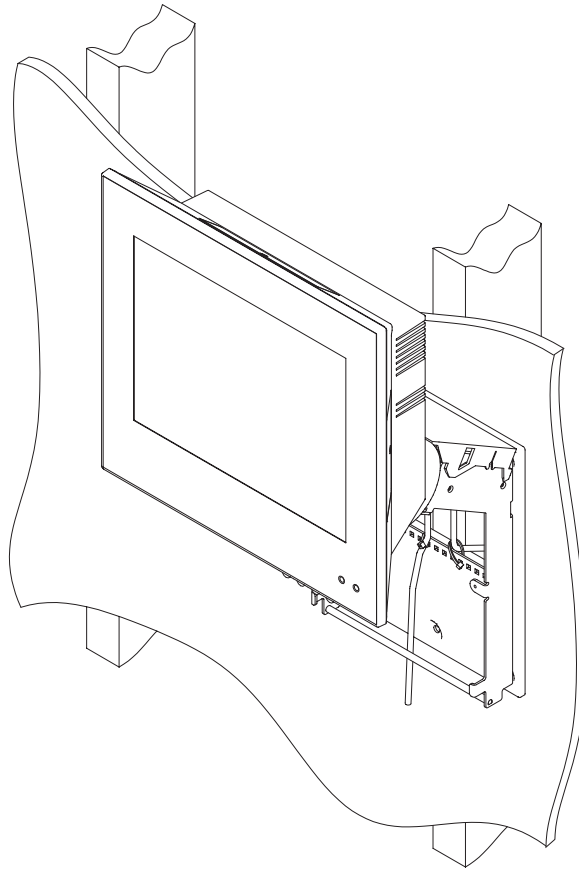

Figure 135. Securing cables using tie-wraps
5. Secure the cables, especially the USB cables to the wall mount plate with tie-warps, see Figure 135 for an example. Cut the end of the tie-wraps flush so there are no sharp edges sticking out to get hurt on as shown in Figure 135.